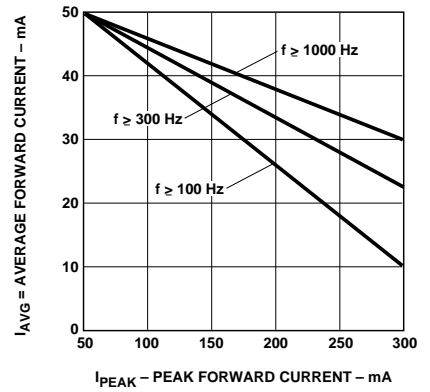

Figure 13. Maximum Average Current vs. Peak Forward Current.
2. Any pulsed operation cannot exceed the Absolute Max Peak Forward current as specified in Figure 13.